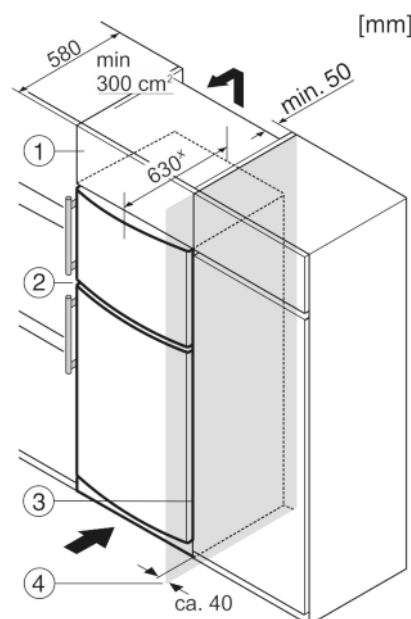

Fig. 9
- (1) Stack cabinet
- (2) Appliance
- (3) Kitchen cabinet
- (4) Wall
The appliance can be built into kitchen units. A top cupboard Fig. 9 (2) can be added above the appliance in order to bring the appliance Fig. 9 (1) up to the height of the fitted kitchen units.
When installing with kitchen units (max. depth 580 mm), the appliance can be positioned directly next to the kitchen cabinet Fig. 9 (3). The appliance will project by 34 mm* at the sides and 50 mm* in the centre of the appliance in relation to the kitchen cabinet front.
If the appliance is installed with the hinges next to a wall Fig. 9 (4), the distance between appliance and wall has to be at least 40 mm. This corresponds to the projection of the handle when the door is open.